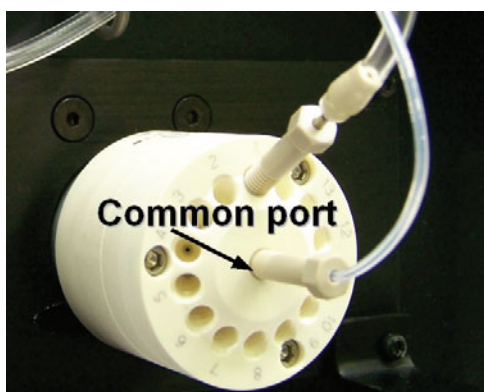

Figure 1. Common port on the sample selection 14-port valve.
- Next, run a fast rinse {} with only the buffer selected. While the fast rinse is running watch the common port line to see if bubbles are leaving the valve via this line (**Figure 1**). If the bubbles appear to be coming from the 14-port valve itself and not from any other source then the valve may be dirty, clogged, or loose.